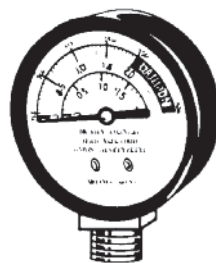

Fig. 4
2. PRESSURE GAUGE, PART NO. 72S. (See Fig. 4) Do not immerse your pressure gauge in water when cleaning the unit. The gauge does not require any maintenance other than periodically making sure that the opening of the gauge on the underside of the cover is open and free of any foreign matter. DO NOT USE YOUR UNIT IF THE GAUGE FACE CRACKS, FILLS WITH STEAM OR DOES NOT RETURN TO ZERO.